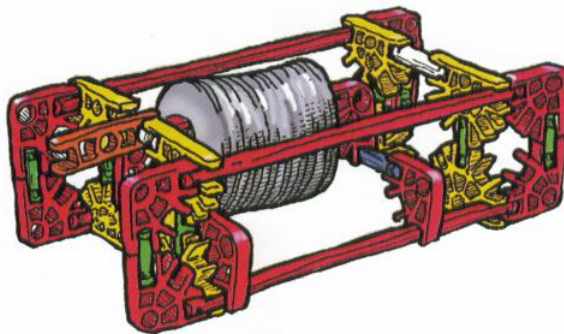
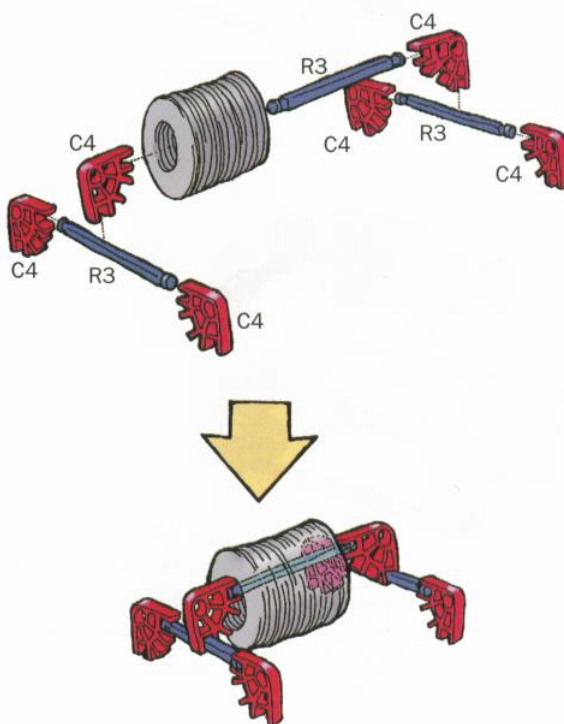

Figure 8.2 The assembled sled
Figure 8.3 How to assemble the washer seat for K'NEX® sled
10. Now build your sled using K'NEX® parts and seven washers. Follow Figures 8.3 through 8.5 to assemble the sled. The finished sled will look like the one shown in Figure 8.2.